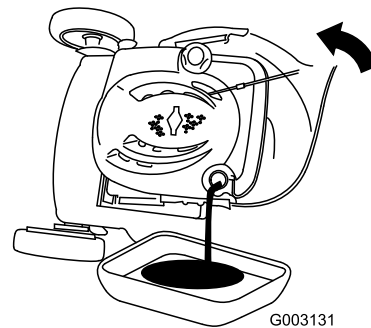

Figure 36
3. Tip the mower onto its side, with the air filter up, to drain the used oil out through the oil fill tube (Figure 36).